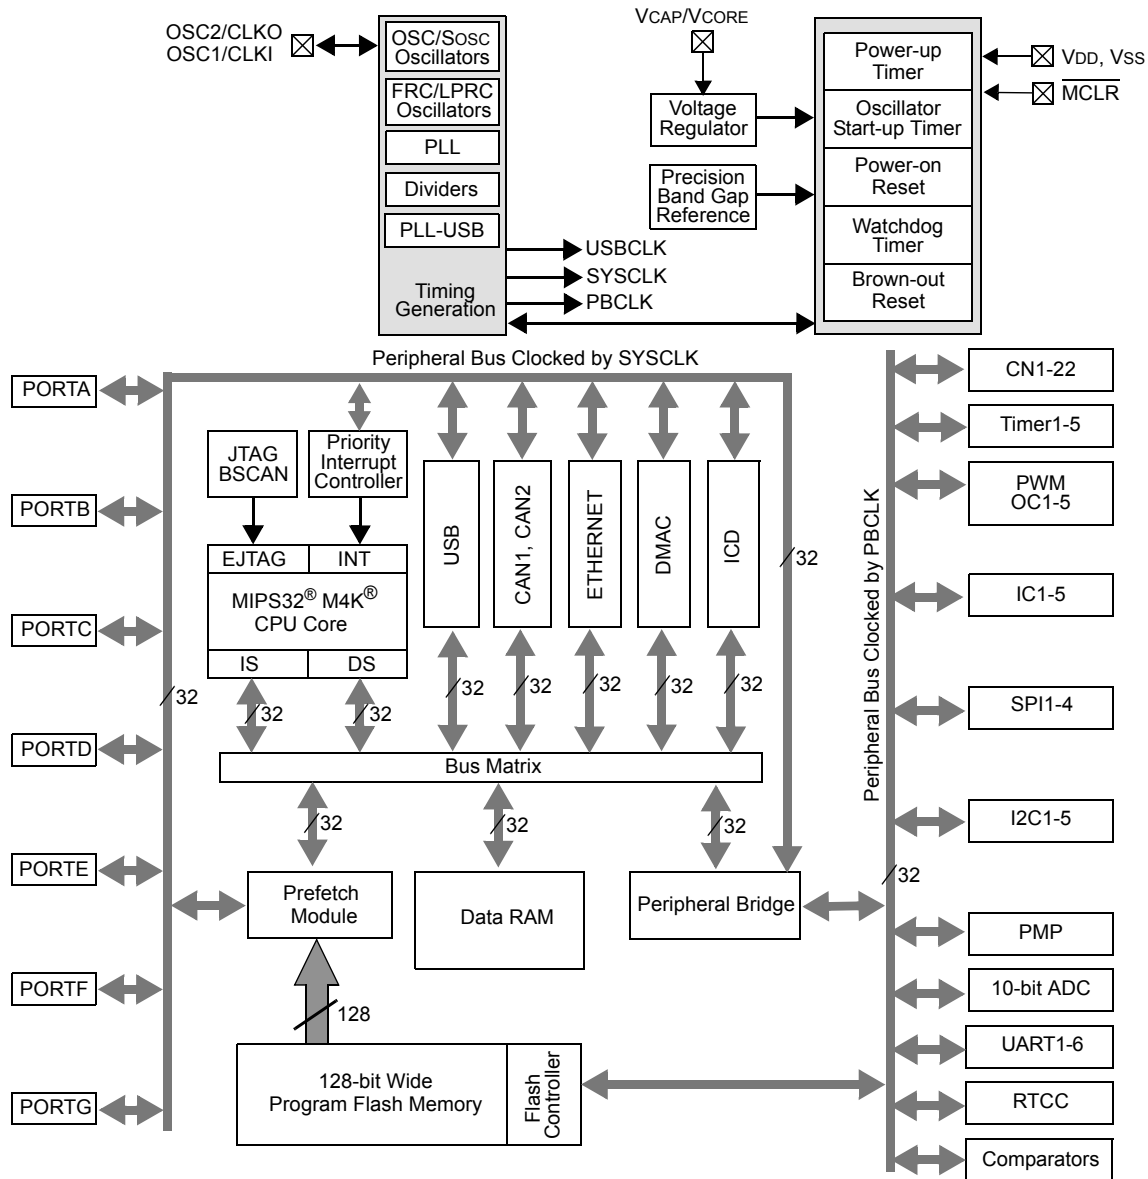

Figure 2.2: The PIC32MX5XX/6XX/7XX architecture.
Figure 2.2 is a block diagram of the architecture of the PIC32. Of course there is a CPU, program memory, and data memory. Perhaps most interesting to us, though, is the plethora of *peripherals*, which are what make microcontrollers useful for embedded control. From left to right, top to bottom, these peripherals consist of PORTA . . . PORTG, which are digital I/O ports; 22 change notification (CN) pins that generate interrupts when input signals change; five 16-bit counters (which can be used as one 16-bit counter and two 32-bit counters by chaining) that can be used for a variety of counting operations, and timing operations by counting clock ticks; five pins for output pulse-width modulation (PWM) pulse trains (or “output compare” OC); five pins for “input capture” (IC) which are used to capture timer values or trigger interrupts on rising or falling inputs; four SPI and five I²C synchronous serial communication modules; a “parallel master port” (PMP) for parallel communication; an analog-to-digital converter (ADC) multiplexed to 16 input pins; six UARTs for asynchronous serial communication (e.g., RS-232, RS-485); a real-time clock and calendar (RTCC) that can maintain accurate year-month-day-time; and two comparators, each of which determines which of two analog inputs has a higher voltage.
communication. The timing generation block that creates these clock signals and other elements of the architecture in Figure 2.2 are briefly described below.